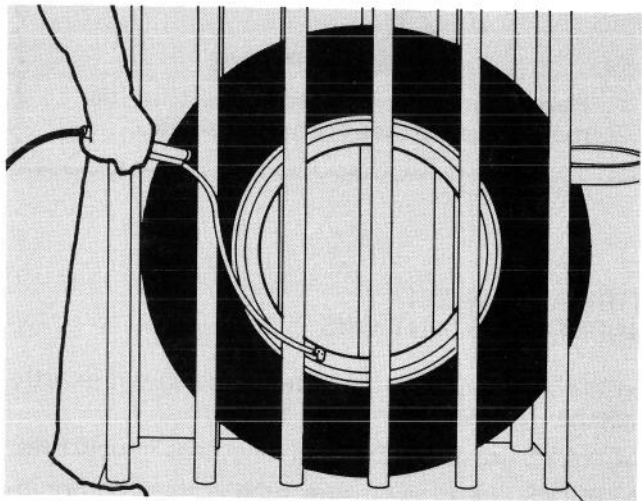

Figure 111
ALWAYS inflate tires in a safety cage, enclosed on all sides, including top or use a portable safety device. Use extension hose with gauge and clip-on chuck so that operator may stand aside during inflation (Fig. 111).
7. Stand tire inside safety cage, install clip-on chuck and insure inflation hose is long enough to allow you to stand to the side of tire (Fig. 111).